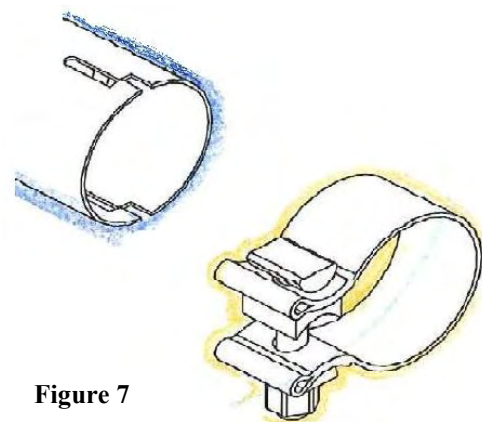

Figure 7
4. Position clamp with bolt between pipe notches and hand-torque to 35 ft. lbs. torque. (See Fig.7)